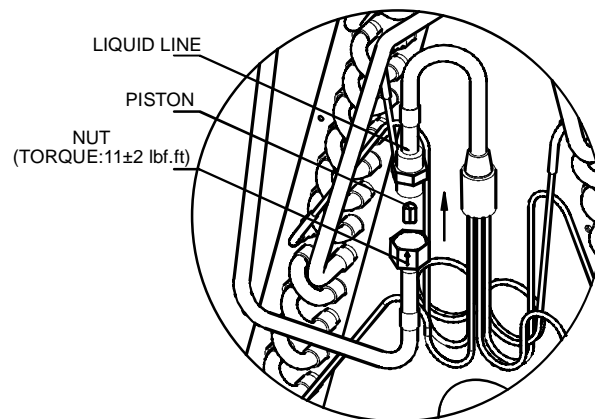

Fig.5 FLOWRATOR PISTON CHANGE
- 4.Remove and replace piston shown in Fig.5.